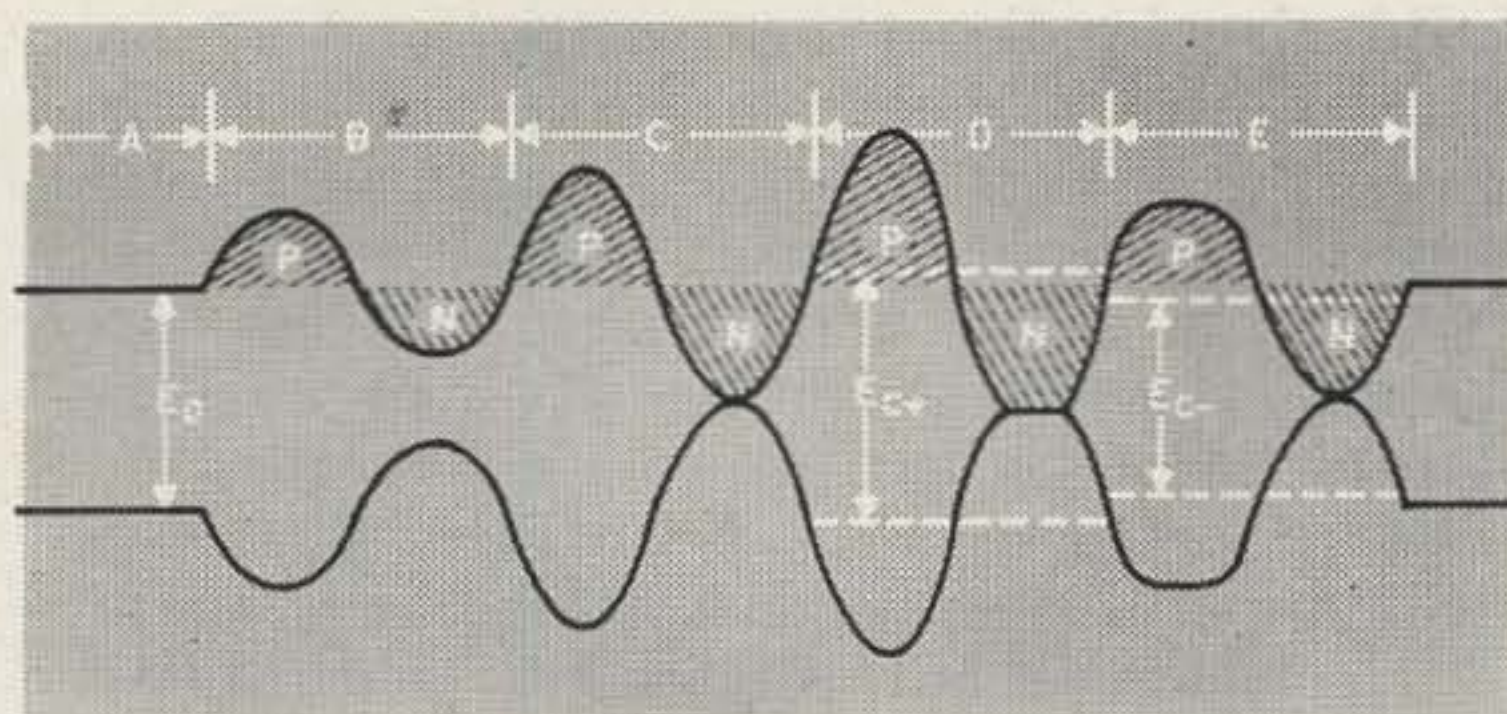
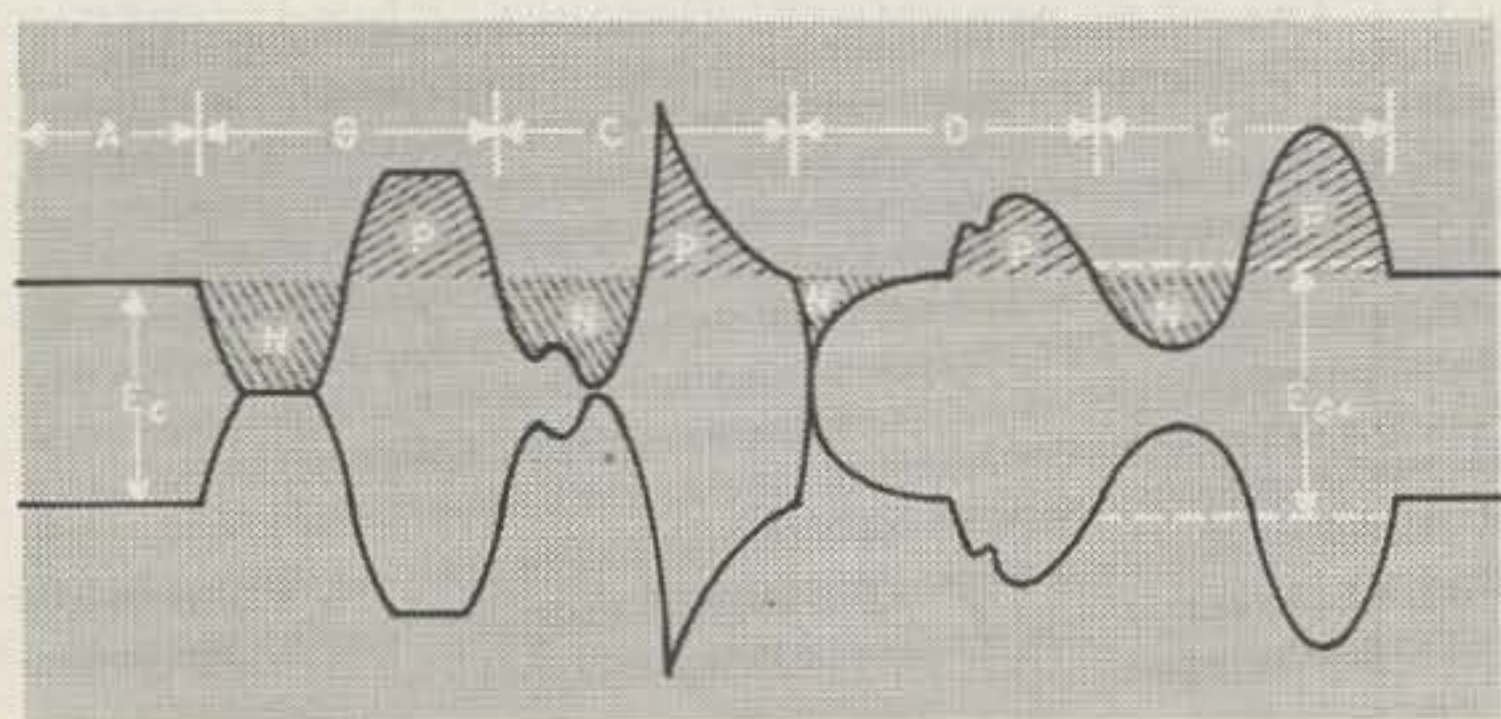
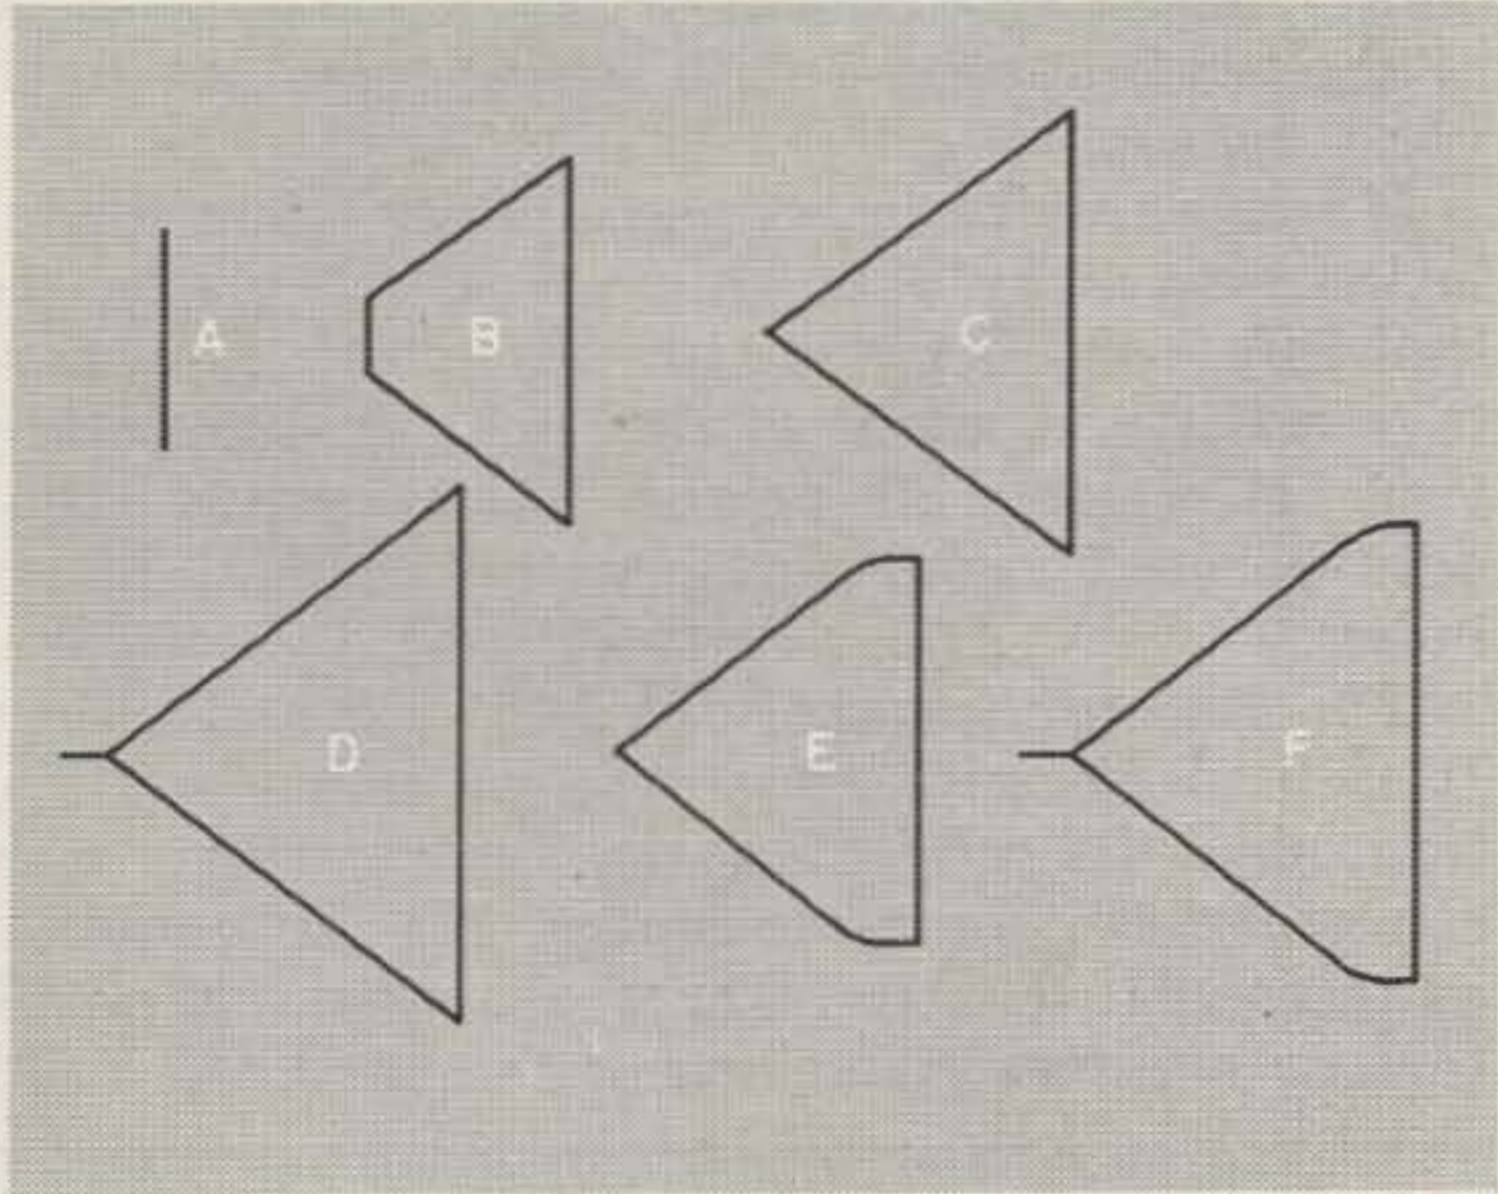

Fig. 1
Fig. 2
Fig. 3 — 1
capacitance, the scale is linear and there is no need for other than full-scale calibration. Hence, a variable resistor, R5 in Fig. 1, is used to shunt a bit of extra current around the meter, to allow for battery aging and also to eliminate the necessity of setting the multi-vibrator exactly on frequency.
The MV, in Fig. 1, has three possible states of normal operation. They are: Q1 conducting and Q2 cut off, or Q2 on and Q1 cut off, or a transitional state where both conduct. When the power switch, S1, is first turned on either Q1 or Q2 starts to conduct more readily than the other due to inherent circuit unbalance. Due to the regenerative action of the cross coupled amplifiers one or the other soon is
driven to saturation, with the opposite amplifier cut off by the large positive bias developed by the charge on the coupling capacitor. The plus charge drains off toward the B— thru the base bias resistor, and at about  $-0.1$  volts of base bias, the cut off transistor then conducts, and regeneration quickly causes this transistor to become saturated, with the opposite one cut off. This process repeats itself at a rate governed mainly by the base bias resistors, R2 and R3 in Fig. 1, and the inter-coupling capacitors, C1 thru C8. The result is more or less a square-wave. A capacitor, Cx, is connected across the terminals J1 and J2 with the instrument turned on. When Q1 is conducting and Q2 is cut off, Cx is charged to practically the full battery voltage thru CR1. On the next half cycle Cx discharges thru CR2 and the meter, M1, and recharges again in the opposite polarity, to the supply potential. The result is, of course, a
If no modulation is applied, the rf envelope height remains constant as in Fig. 1-A. Fig. 1-B shows the envelope sinusoidally modulated at about 70%, and if nothing unsanitary hap-
With a good transmitter, we should be able to increase the amplitude of the modulating signal to obtain 100% modulation (Fig. 1-C) while still maintaining an average amplitude of  $E_c$ : no carrier shift.
If the transmitter is capable of extended positive peak modulation (and few really are), a further increase in the modulation gives the pattern of Fig. 1-D. Here the transmitter shuts itself off for a brief portion of the negative peak, so that the positive peaks' areas (P) are greater than those of the negative peaks (N). Now the average rf amplitude increases to  $E_{c+}$ : positive carrier shift. The clipped negative peaks represent a source of vicious splatter. Their sharp corners correspond to modulating frequencies much higher than the actual output of the modulator, and the resulting sidebands are much farther from the carrier than normal. Modulating frequencies this high would not ordinarily be passed by the modulation transformer, so that the broadening will be more severe than that which audio distortion alone could cause.
If the transmitter distorts the positive peaks, splatter may also be produced. In Fig. 1-E the negative peak is the same as 1-C, but the flattened positive peak makes area P less than area N, so that a negative shift in carrier amplitude occurs, and the average rf amplitude becomes  $E_{c-}$ . Actually this flattening is usually more gradual than in 1-D, so the signal may not be quite as broad. It can still clutter up several adjacent channels, however.
If Fig. 1-E represents the output of a linear rf amplifier or a grid-modulated stage, other causes suggest themselves. In these systems, the rf amplifiers' plate efficiency must approximately double on positive modulation peaks, so if the grid drive is too high, the unmodulated efficiency will run too high and the positive peaks must suffer. Some relief is available here by using a lower plate load impedance to raise the limit of plate current. By juggling drive and loading, we can usually restore the positive peak.
Figure 2-B shows that two wrongs don't make a right. Here a rare combination of circumstances has resulted in overmodulation without carrier shift, since positive peak flattening exactly matches the negative clipping caused by overmodulation. The average rf amplitude is unchanged from its unmodulated value (Fig. 2-A). Splatter, however, is abundant . . . the modulator is putting out a sine wave. What if the modulator's output waveform actually was that shown? In that case we would have no splatter by our definition,
Figures 2-C and 2-D show the reasoning behind "extended positive peak" modulation. Voice and music modulation often produces waveforms with unequal peaks. Here a waveform of that type is shown; 100% modulating a radio wave, first in one polarity and then in the other. The drawing is intended to indicate that in both cases the positive peak (P) and the negative peak (N) include the same area. In Fig. 2-C however, the smaller peak is applied negatively, and (assuming again that the transmitter can handle the extended positive peak) modulation in the positive direction can actually exceed 125% without splatter. No carrier shift exists. If, as in Fig. 2-D, the modulating signal is applied in the opposite polarity, the gain control must be backed off, and the sideband power decreased accordingly to prevent negative peak overmodulation, carrier shift, and splatter. The correct polarity for your particular voice may be found by reversing any two wires in the audio system . . . or even, with some types of microphones, by speaking into the other side of the microphone. The pattern is most easily interpreted for voice modulation if a slow linear sweep (under 100 cycles) is applied to the horizontal plates and the transmitter's rf output sample directly to the vertical plates of the 'scope.
Even if your voice waveform exhibits as much unbalance as in Fig. 2-C, there is a very good possibility that your transmitter cannot handle the extension of positive peaks, for the reasons listed in reference to Fig. 1-E. If you decide to carry the extension farther than can be done by finding the favorable audio polarity, systems have been evolved where a sine wave output from the modulator causes extended positive peak modulation as in Fig. 2-E. We recognize this as carrier shift, and we must admit that it will produce splatter since the modulated wave outline does not conform to the modulator's output waveform. There is a possibility that, if not carried to excess, the spurious side-frequencies produced will not cause serious adjacent channel interference. We have no assurance that the additional sideband power that we attain in this way will not be objectionable, or that it will contribute to intelligibility at the receiver. Systems of this sort which have been suggested in amateur publications do not guarantee against adjacent channel interference even though the negative peaks are not clipped; nor do they put all the extra sideband power through the selective portions of the receiver.
Before we make any suggestions, let us review the 'scope patterns by inspecting their corresponding trapezoidal displays. Fig. 3-A, of course, represents the trapezoidal pattern for no modulation. Figs. 3-B, C, D, and E correspond to Figs. 1-B, C, D, and E respectively. Fig. 3-F shows the highly improbable case outlined as a modulated envelope in Fig. 2-B. Drawn to the same scale, Fig. 3-G, in its entirety, is larger (by the cross-hatched area) than 3-C. Due to the greater peak amplitudes obtained with the extended positive peak modulation encountered in the corresponding Fig. 2-C. The shaded triangle of 3-G shows the reduction of positive peaks necessary to prevent overmodulation with improperly polarized audio (2-D). You may have noticed that any bends or corners in the non-parallel sides of our trapezoid represent carrier shift. In 3-D, E, and F, the departures from linearity are abrupt. In 3-H, the bending is gradual, but carrier shift still exists, reflecting the condition (2-E) of artificially extended positive peaks.